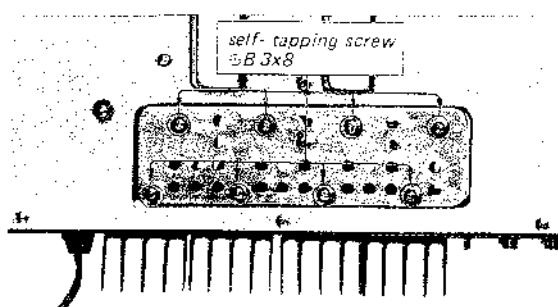

Fig. 2-8 Heat sink removal
3. Remove the four self-tapping screws (#B 3x8) securing the pair of heat sinks to the chassis as shown in Fig. 2-8.